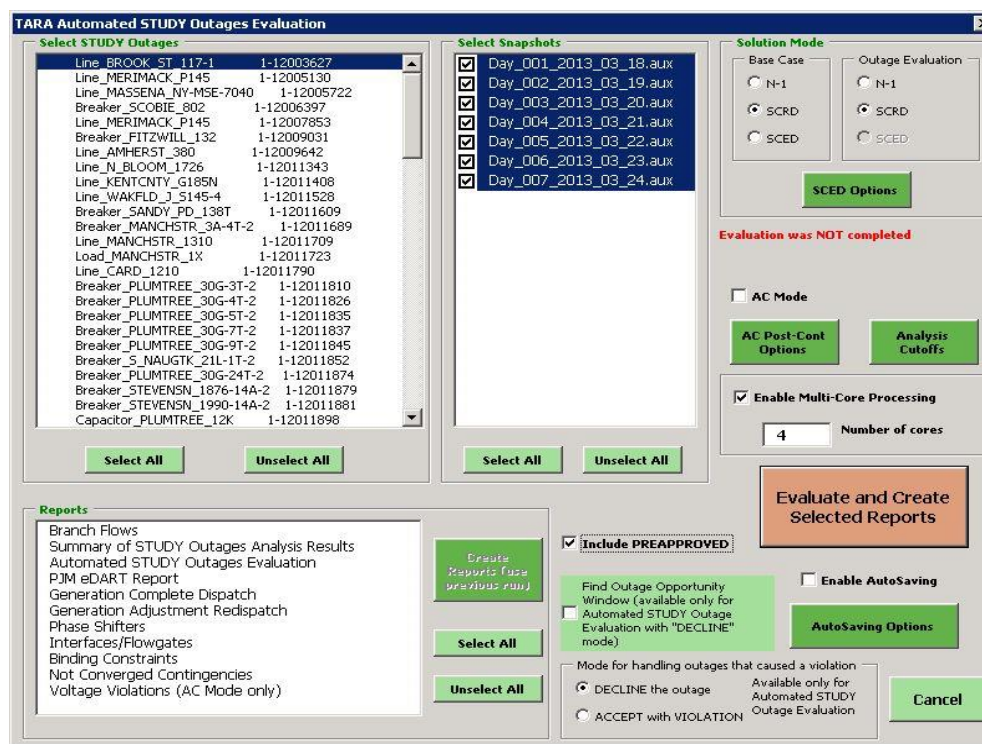

Fig. 2
7. RMC on an outage labeled “Study” and CLICK on “Automated STUDY Outage Evaluation” to bring up the ORA window as shown in Fig. 2, below